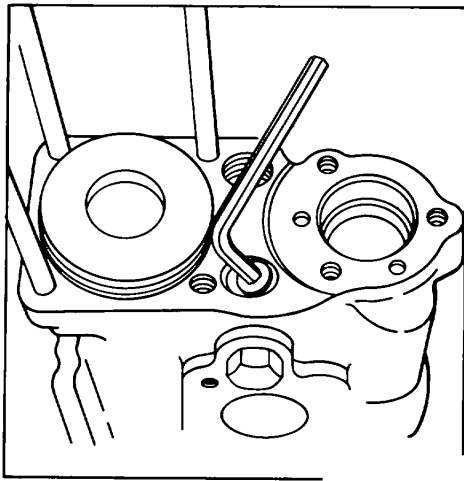

Figure 174.
19. If necessary, the orifice (53) may be removed by first removing stud (15) to gain access to pipe plug (51). With an Allen wrench, remove pipe plug (51), spring (52), and orifice (53). See Fig. 174.